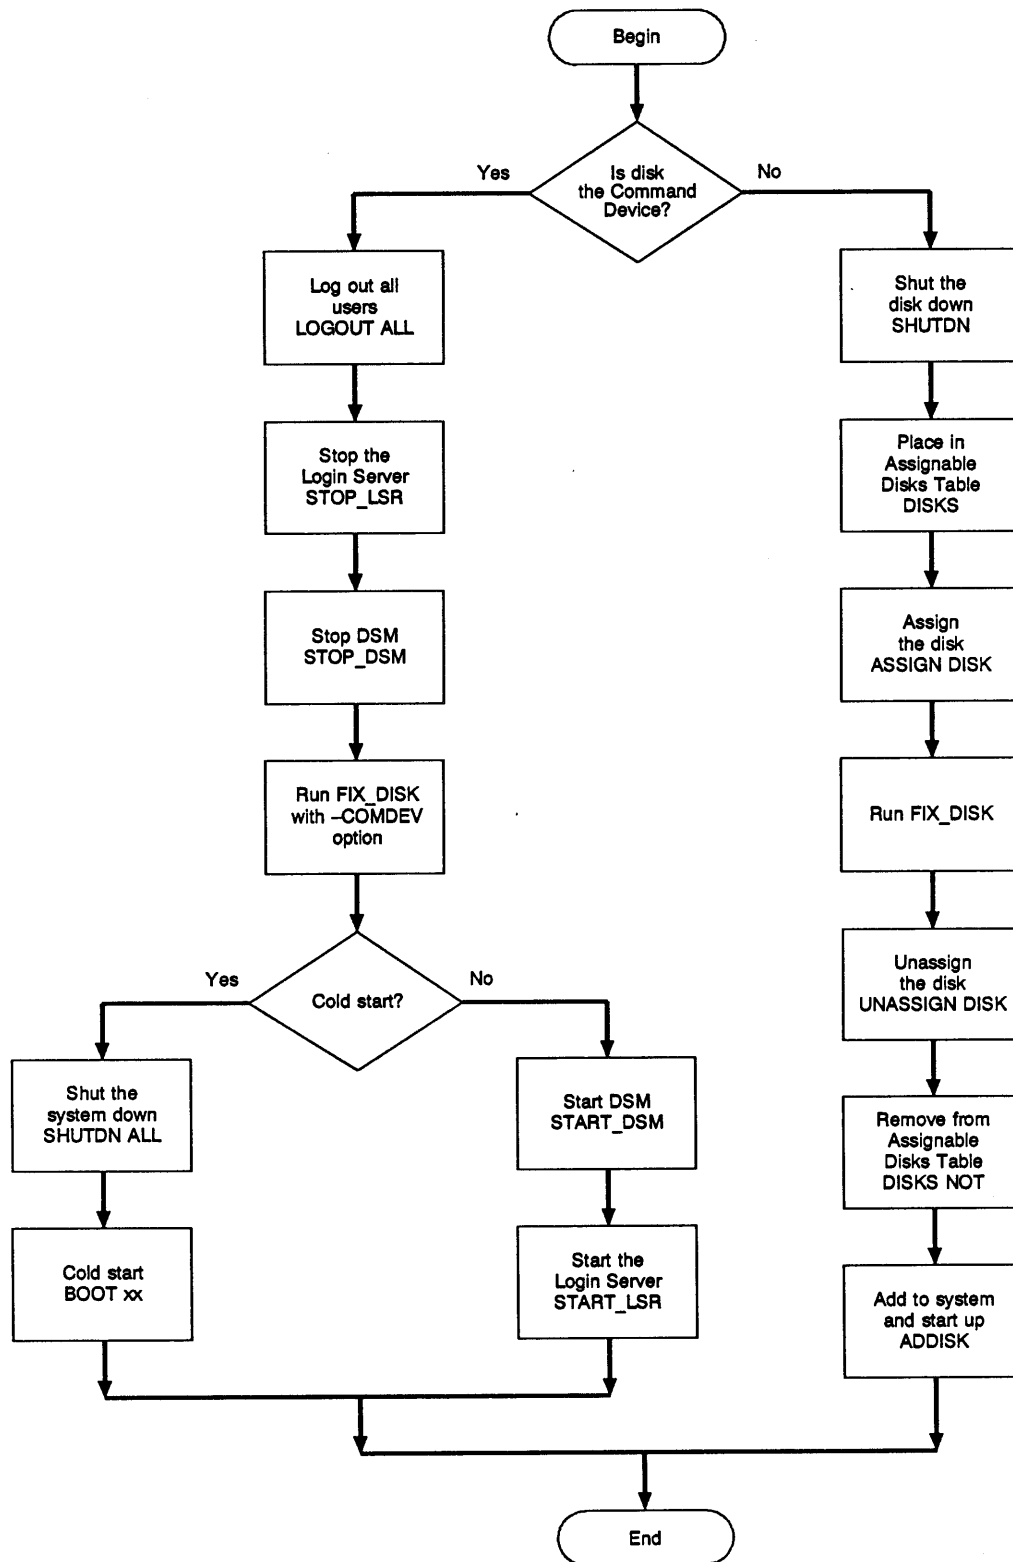

FIGURE 6-1. Disk Repair Using *FIX_DISK*
Sometimes, FIX_DISK is run to repair a defective file structure. In this case, follow the procedures described in Chapter 4 to shut down the partition, warning users that the partition you will repair is to be shut down. Then use the disk repair procedure, which is illustrated in Figure 6-1 and explained in the next section.
If the partition you are repairing is the command device, follow the left-hand path in Figure 6-1: log out all users, stop the Login server by using the STOP_LSR command, and stop DSM by using the STOP_DSM command. (See the discussion of the -COMDEV option in item 7, Repair or Use the Command Device, for details.) Then specify the FIX_DISK -COMDEV option and PRIMOS automatically performs all the procedures illustrated on the right-hand path in Figure 6-1 from shutting the disk down to starting it up again. However, it may be desirable to cold start the system when you repair the command device and FIX_DISK finishes so that all system servers are automatically restarted and any other servers and phantoms are started by inclusion of the appropriate commands in your PRIMOS.COMI file.
If you are not repairing the command device, perform the procedures shown in the right-hand path of Figure 6-1 at the supervisor terminal: shut down and assign the partition; run FIX_DISK; unassign and startup the partition. Note that you can invoke the SHUTDN, DISKS, and ADDISK commands only from the supervisor terminal but you can run FIX_DISK at a user terminal.